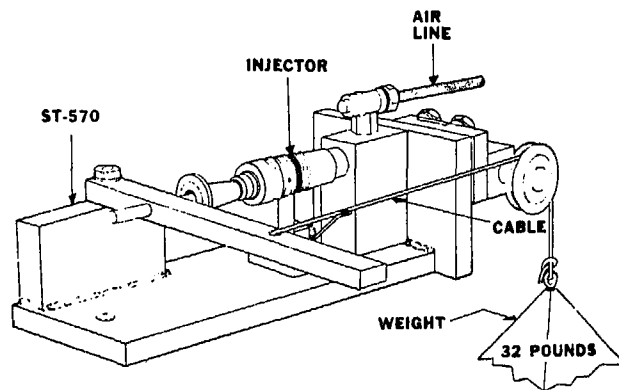

Fig. 6-1-39. Testing injector plunger-to-cup seating — ST-570
3. Place injector in ST-570 with cup seated in the counter-bore below the air valve. Fig. 6-1-39.
5. Seat handle against injector plunger link and let the weight control the force against plunger. Do not apply any additional force to handle during test. Fig. 6-1-39.
6. Turn on air pressure (press air valve button). Injector is acceptable if the duration of time before the first air bubble appears is more than ten (10) seconds, and/or time between the observed air bubbles is not less than five (5) seconds.